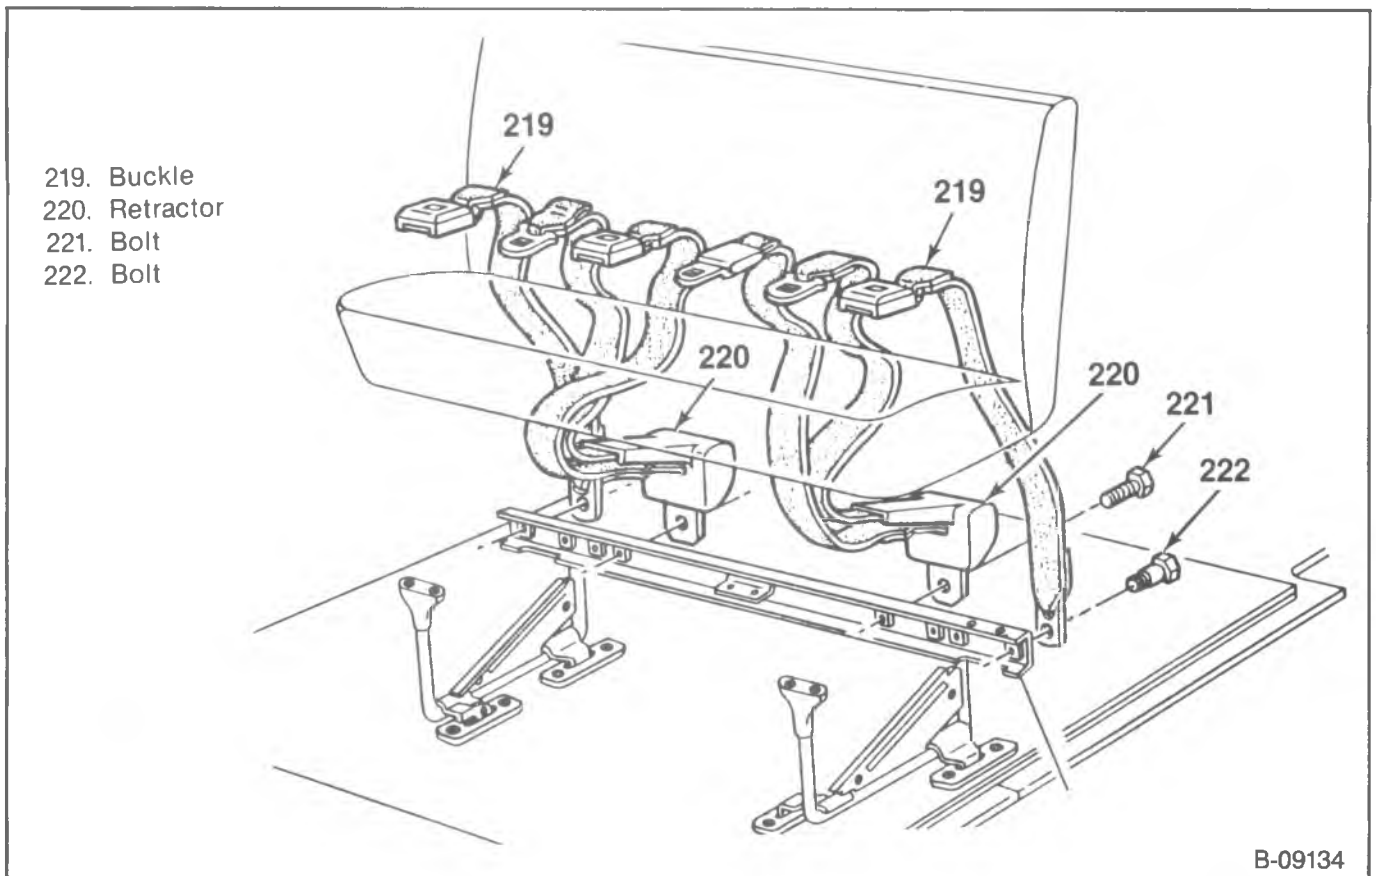

Figure 40—Center Seat Belt Components
**Remove or Disconnect (Figures 40, 41, and 42)**
1. Retractor to support assembly bolts (221).
2. Retractor (220) from the seat.
3. Buckle (219) and latch plate (225) (if equipped) to support assembly bolts (222).
4. Buckle (219) and latch plate (225) (if equipped) from the seat.